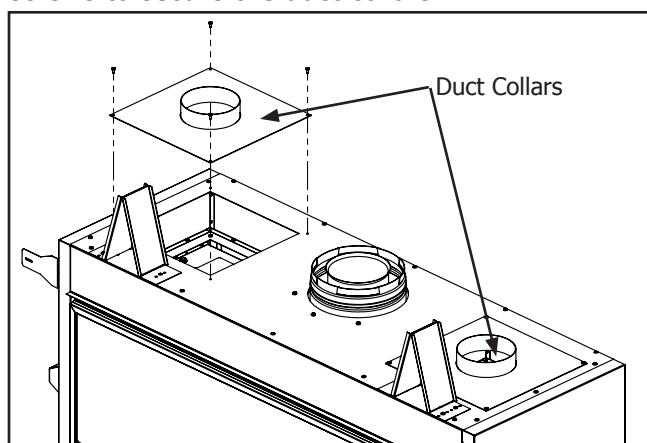

Figure 12. Duct Collars Installed
Step 2: Attach the supplied duct collars to the top of the cabinet as shown (Figure 12). Secure the collars by re-using the eight (8) screws saved in the previous step.